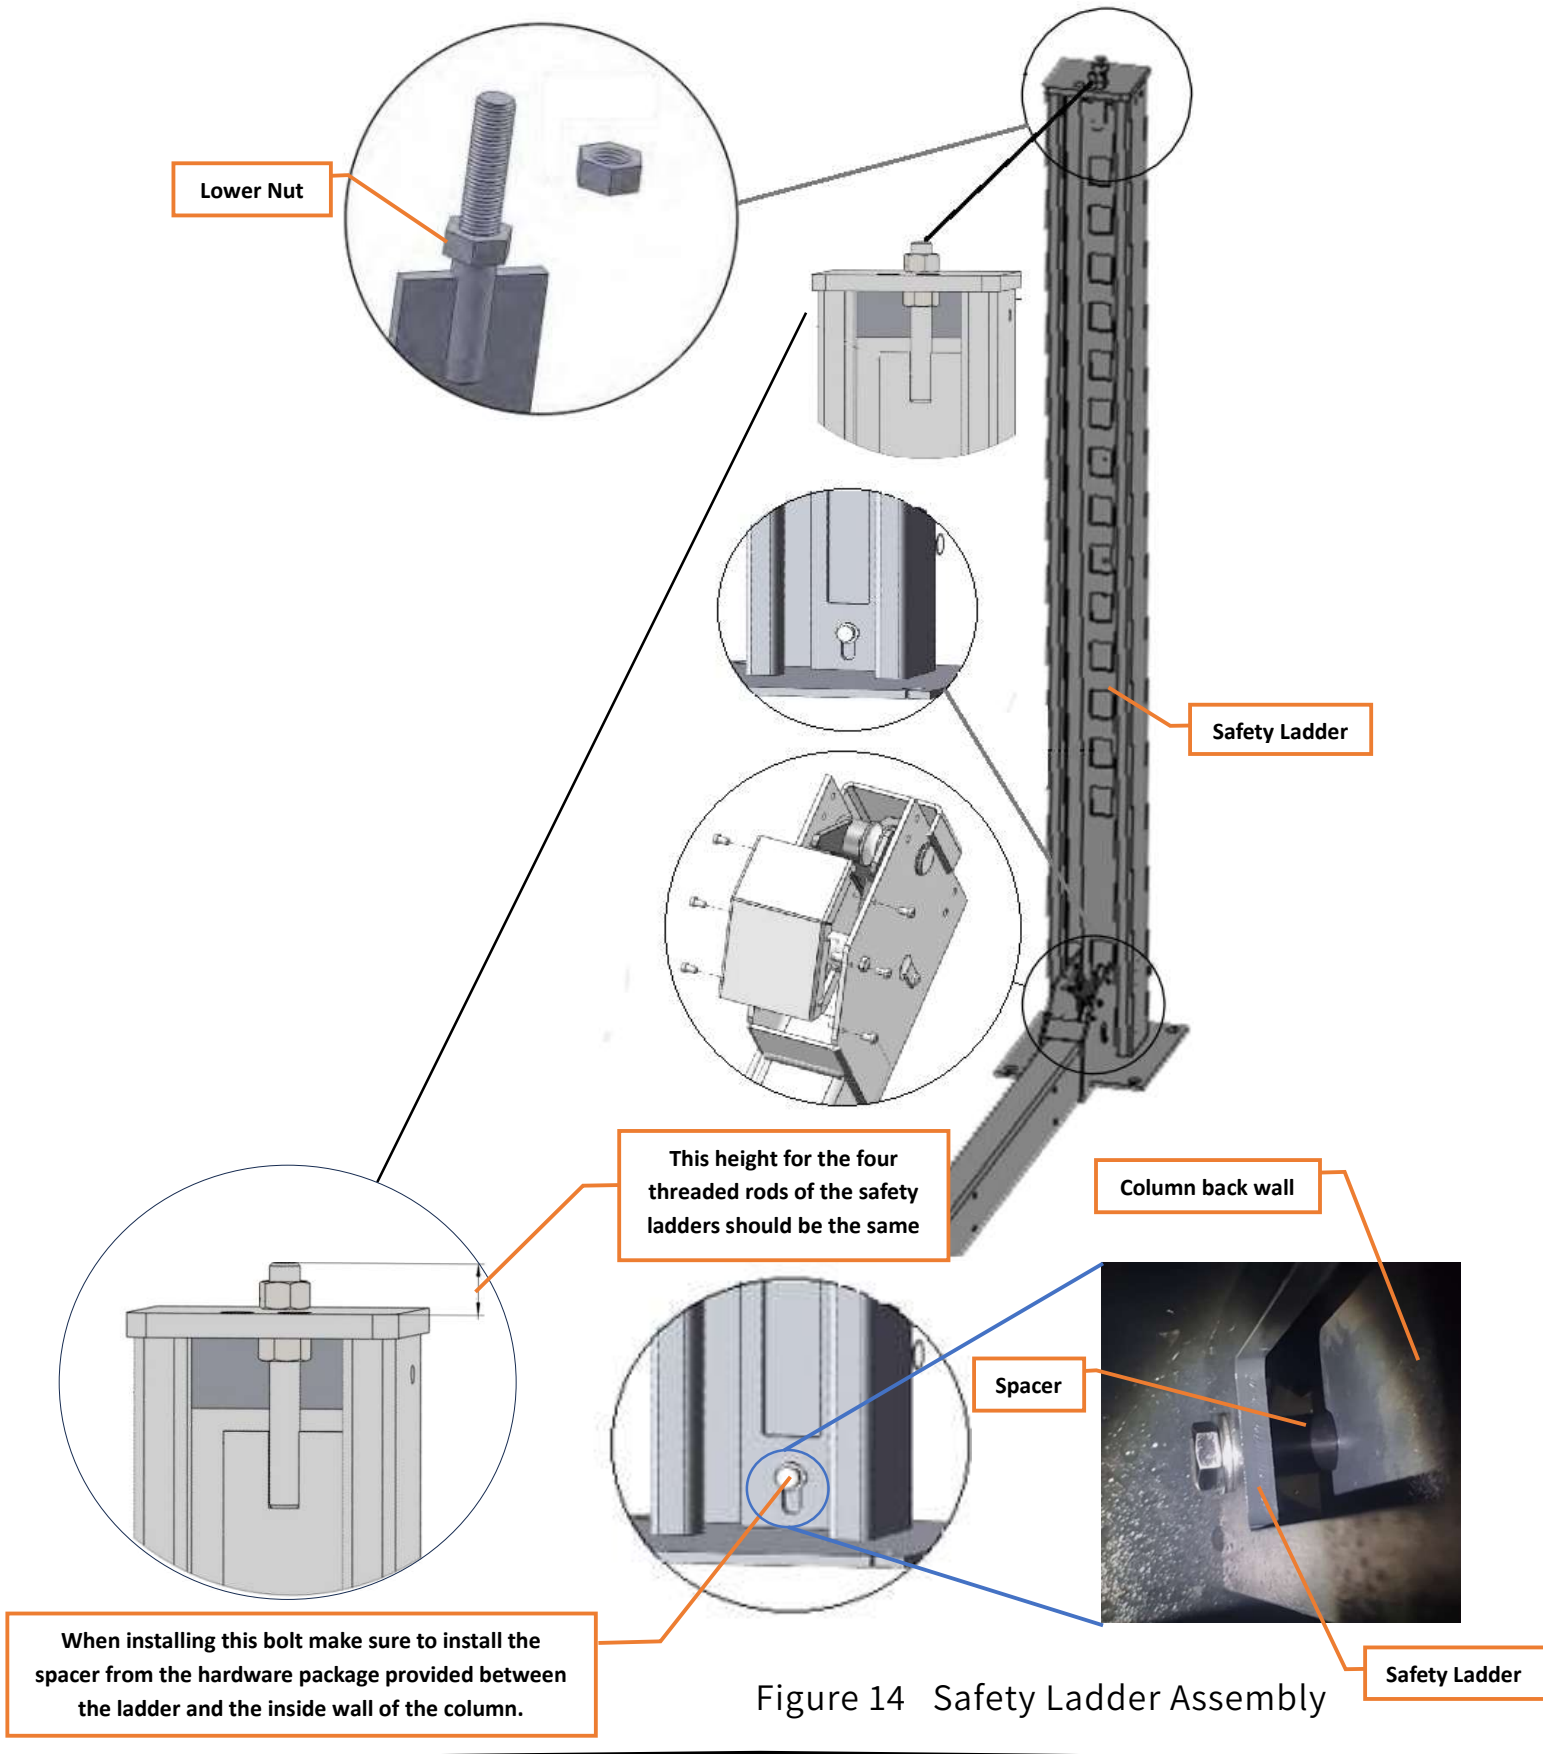

Figure 14 Safety Ladder Assembly
2. Adjust the four lower nuts so they are at the same position (See Fig. 14).